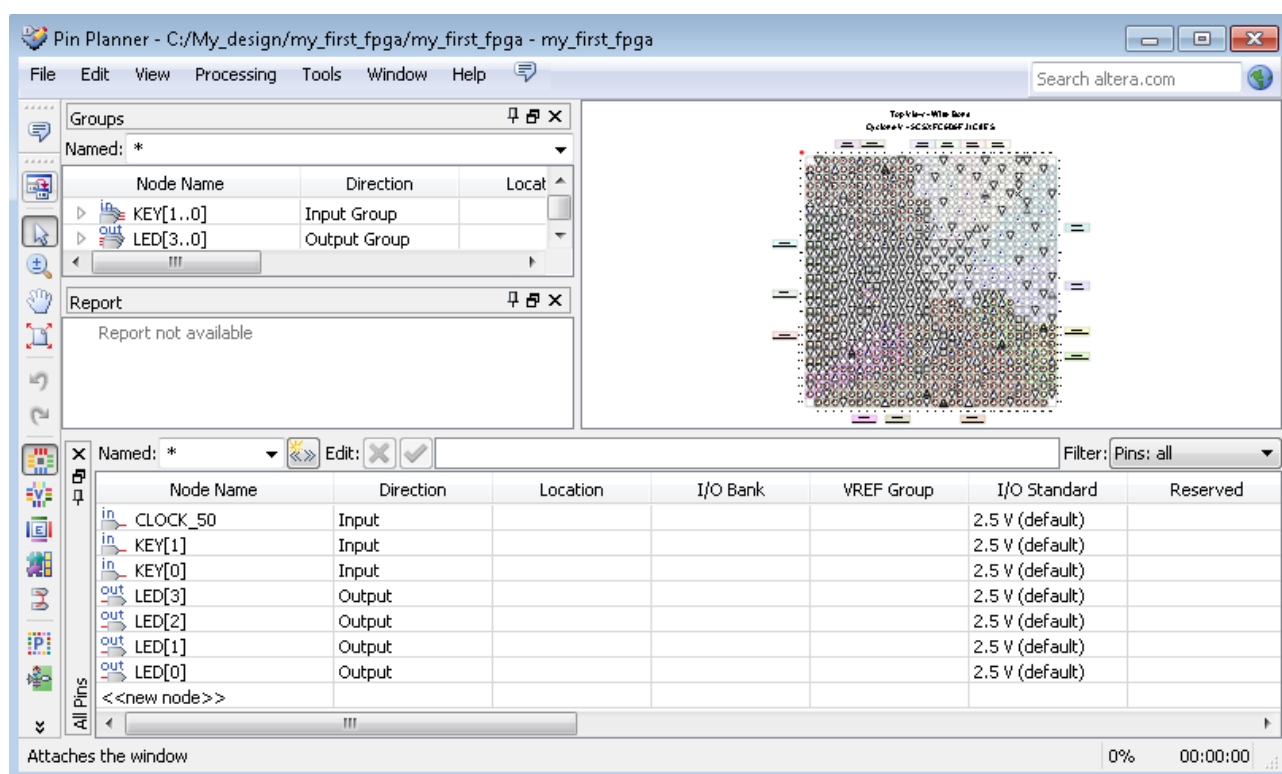

Figure 3-32 Pin Planner Example
1. Choose Assignments > Pins, which opens the Pin Planner, a spreadsheet-like table of specific pin assignments. The Pin Planner shows the design's six pins. See Figure 3-32